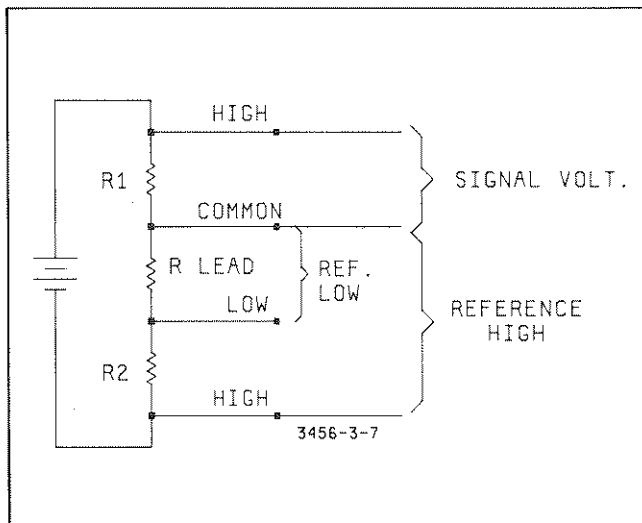

Figure 3-7. Typical Ratio Measurement.
c. Typical Ratio Measurement. Matching resistor values for an accurate voltage divider is one way to use the 3456A's Ratio feature. Try this by using the set up in Figure 3-7. Connect the instrument as indicated in the figure. Make sure that REFERENCE LOW is connected at the top of R2 and that Signal (Volts) Common is connected at the bottom of R1. Once the instrument is connected and placed in the DCV/DCV Ratio mode, a Ratio Measurement is made. The voltage drop across R1 and R2 is measured including any offset voltages between Signal Common and Reference Low. The offset voltage is used to compensate for any error causing voltages between the input and resistors. Once all the measurements are taken, the Ratio Measurement is displayed on the front panel. If the resistors are equal in value, the reading should be approximately "– 1.00000".